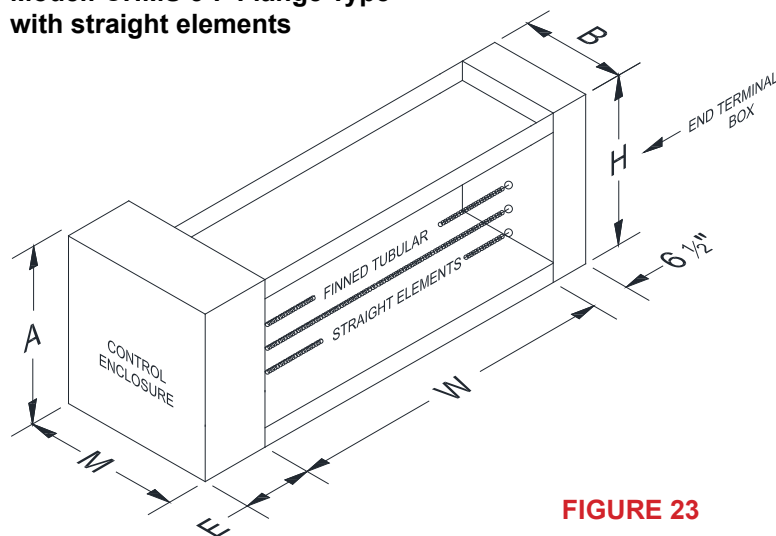

FIGURE 23
To provide the necessary support in handling shipping and mounting, all heaters greater than 55" in width (W) must be ordered as flanged construction and will be built with straight elements. (See Figure 23)